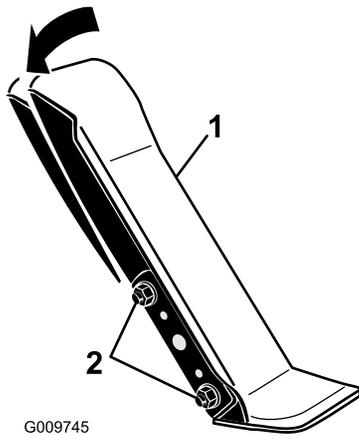

Figure 117
1. Loosen the 2 nuts and bolts securing the left side of the traction pedal to the bracket (Figure 117).
2. Pivot the pedal to the desired operating angle and tighten the nuts (Figure 117).